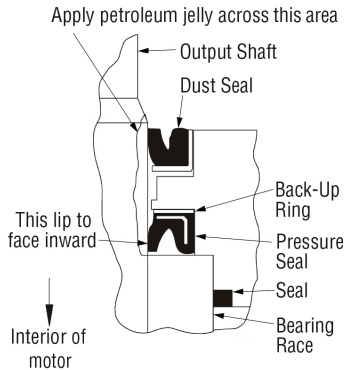

Figure 5-30, Output Shaft Lubrication
16. Before installing the mounting flange and seal assembly over the shaft, place a protective sleeve or bullet over the shaft. Then lubricate the space between the exclusion seal and pressure seal, as well as the lips of both seals. (Figure 5-30)